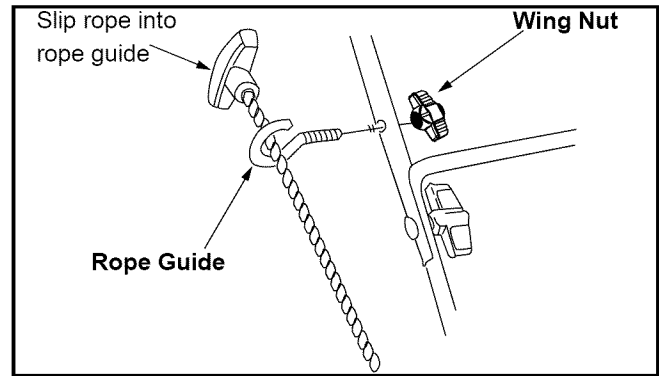

Figure 8
The rope guide is already attached to the right side of the lower handle of your mower. See Figure 8 .
- With the spark plug wire disconnected and grounded, hold the blade control handle against the upper handle, and pull the starter rope up to the rope guide. See Figure 8.